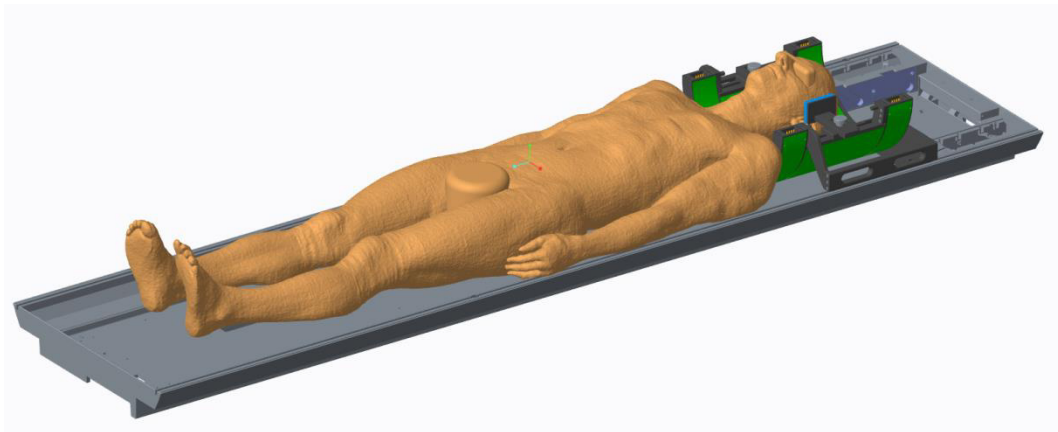

Figure C7: Example for positioning of the target subject with the head inside the opened Head Coil housing with the upper part removed.
5. Unlock the locking mechanism and remove upper part of the Head Coil housing (see Figure C7).